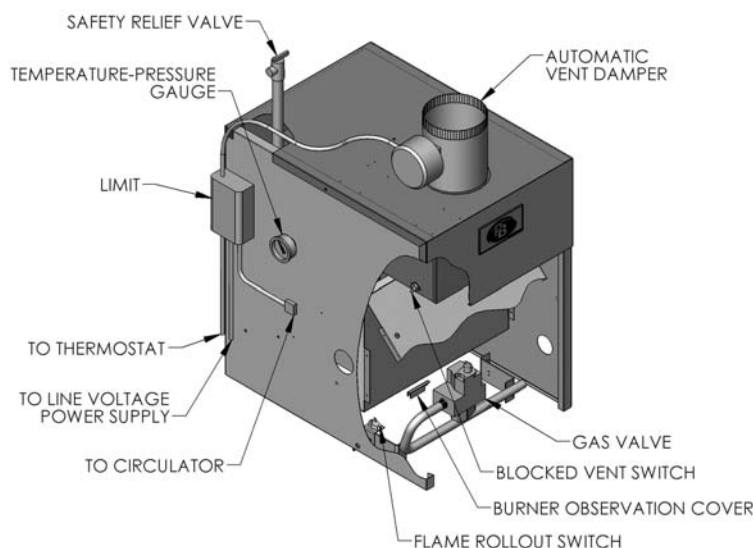
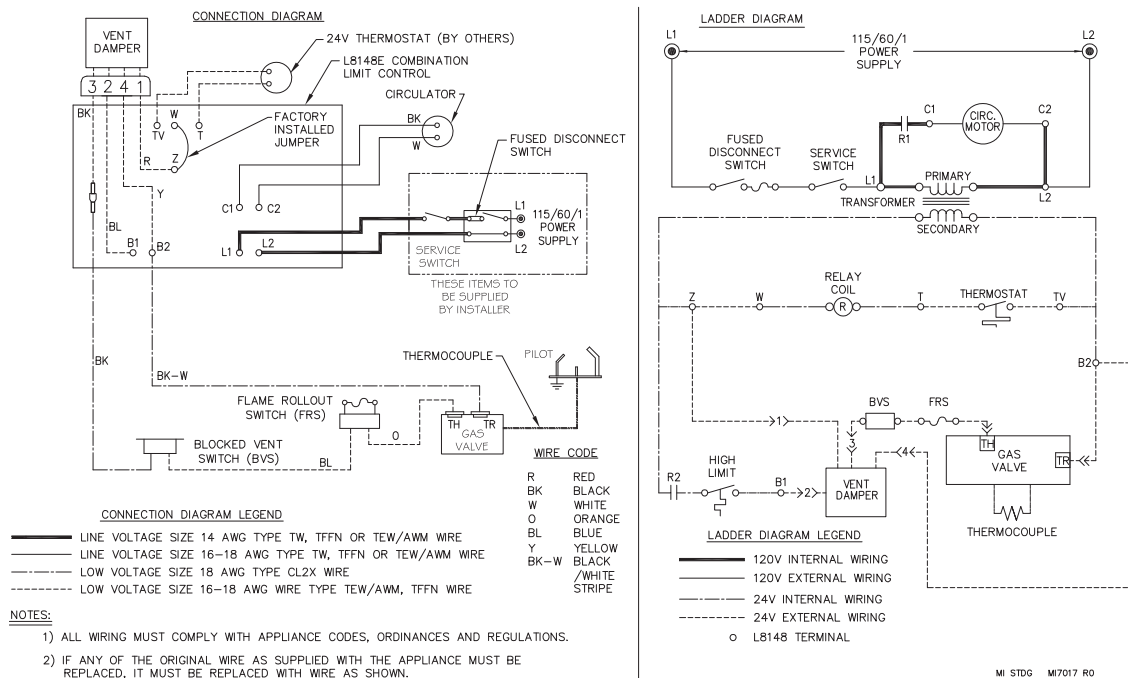

Figure 6.1: Wiring, Controls and Safety Devices
Figure 6.2: Wiring and Connection Diagram – Standing Pilot (Continuous Ignition)
1. See Figure 6.1 for location of wiring and controls. Use Figures 6.2 and 6.3 to connect the boiler to a power supply and to connect components to the boiler.
3. Connect the vent damper harness to the damper motor as shown in Figure 6.1.
1. For proper location of controls and accessories refer to Figure 6.1 and Section 11.
1. Standing Pilot (See Figure 6.2 above)
12. Use the sequence descriptions in Figures 6.2, 6.3 and 6.4 in Section 6 (Electrical) to follow light-off and shutdown sequences and to assist in diagnosing problems. If the boiler does not function properly, consult Section 8, Troubleshooting.